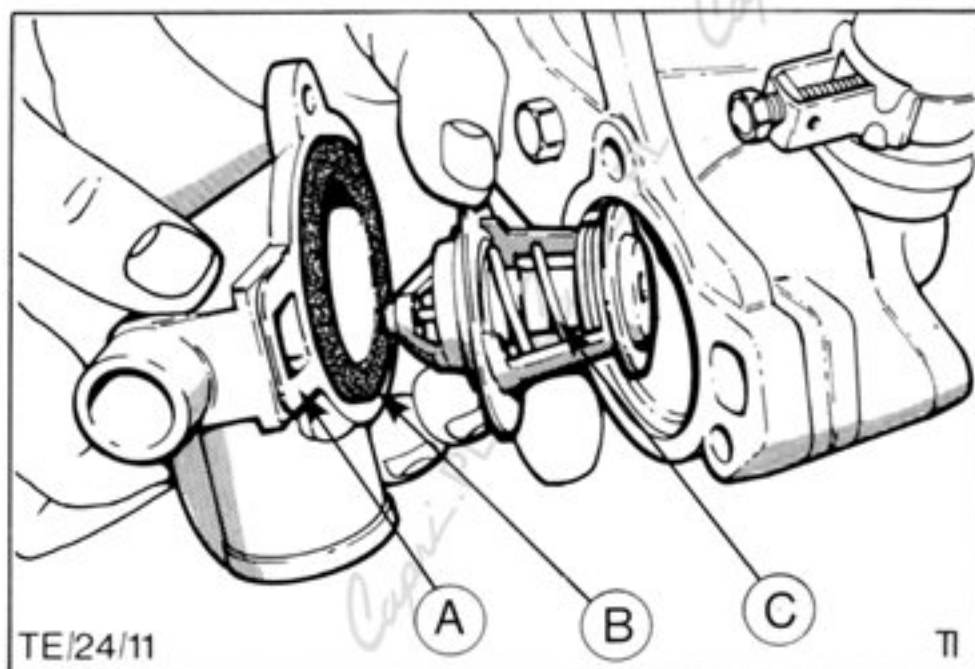

Fig.26. Thermostat installation.
11. Position thermostat, and using a new seal and gasket, Fig.26, refit and secure housing with three bolts. Tighten bolts to specified torque, refer to Technical Data.